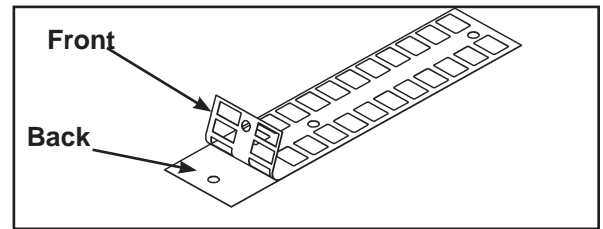

Figure 3
- Slowly and carefully peel off back side of decal. **NOTE:** When peeling off back cover, make sure that the decals remain attached to the front sticker. Figure 3.